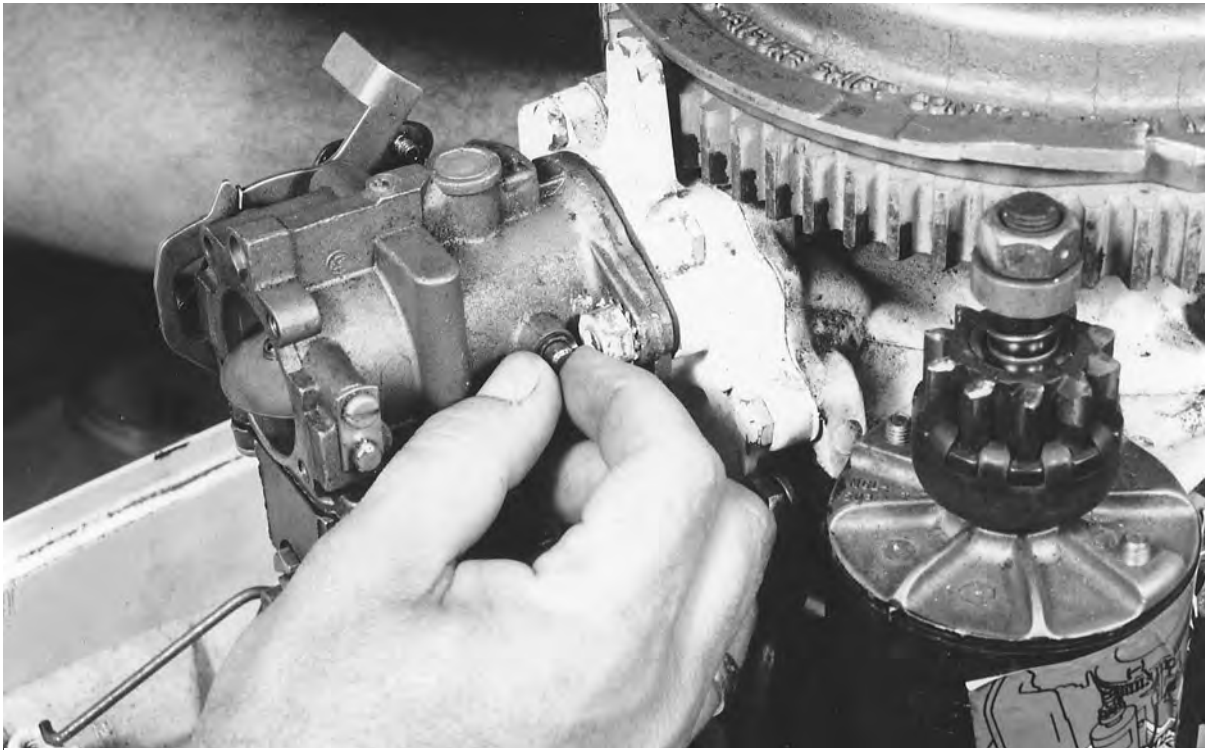

Figure 7-10. *Checking for throttle-shaft wear.*
Figure 7-10 shows the point to check for this wear. Unfortunately, excessive wear here, indicated by noticeable side-to-side movement of the throttle shaft in the carburetor body, means the carburetor will have to be replaced. Rebuilding will be a waste of time. Check for wear at this point on any carburetor before you bother to disassemble it for cleaning. If you are in doubt about how much play is too much, take the carburetor to your dealer for appraisal. I can tell you from my experience that excessive play would be anything in excess of about  $\frac{1}{64}$  inch (0.4 mm). But it's hard to take an accurate measurement at this point, so the "feel" of an experienced mechanic is your best guide.
**Thermal Wax Valves.** On the more advanced primer systems, such as Yamaha's thermal wax valve (see Figure 7-10), the symptoms of a malfunction are the same as for the other types.